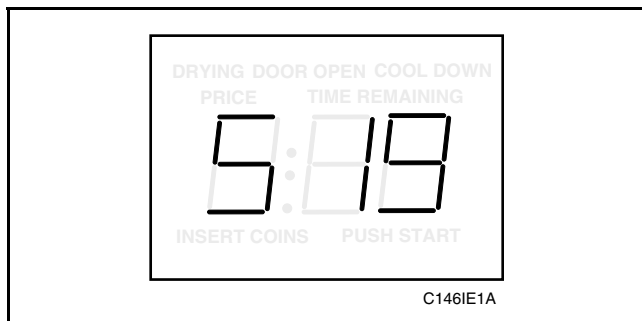

Figure 67
2. While pressing and holding the HIGH TEMP pad with one hand, press the MED TEMP pad with the other hand. Programmable option number 1, (Audio Signal “SIg”), will appear in the VFD, *Figure 67*.